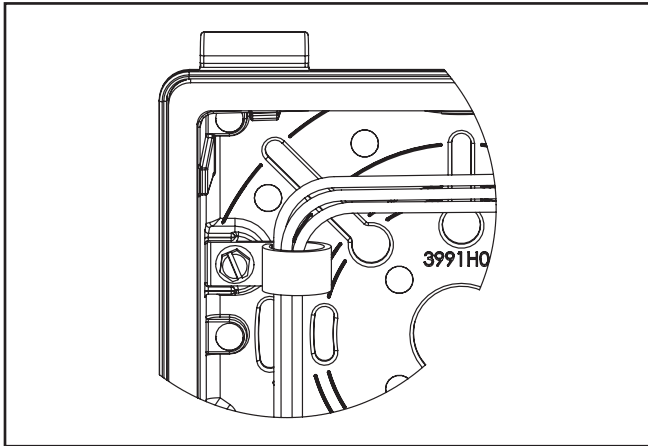

Figure 4.
2. Secure door in lock hinges located at the top of the back box (for down light illumination) (Figure 2). Utilize lever-lock connectors to make electrical connections (Figure 3). All electrical connections must remain inside back box. Secure any loose wires to harness (Figure 4) prior to closing and securing door. Tighten door screw to seal fixture. (10-15 in-lbs.)
**Note:** For conduit applications, remove only the required 1/2" NPT conduit plug(s) prior to installing back box to surface. Apply sealing compound or teflon tape to liquid-tight conduit fitting (supplied by others) entering back box to create water tight seal. Make electrical connections (Figure 3 and Figure 4).